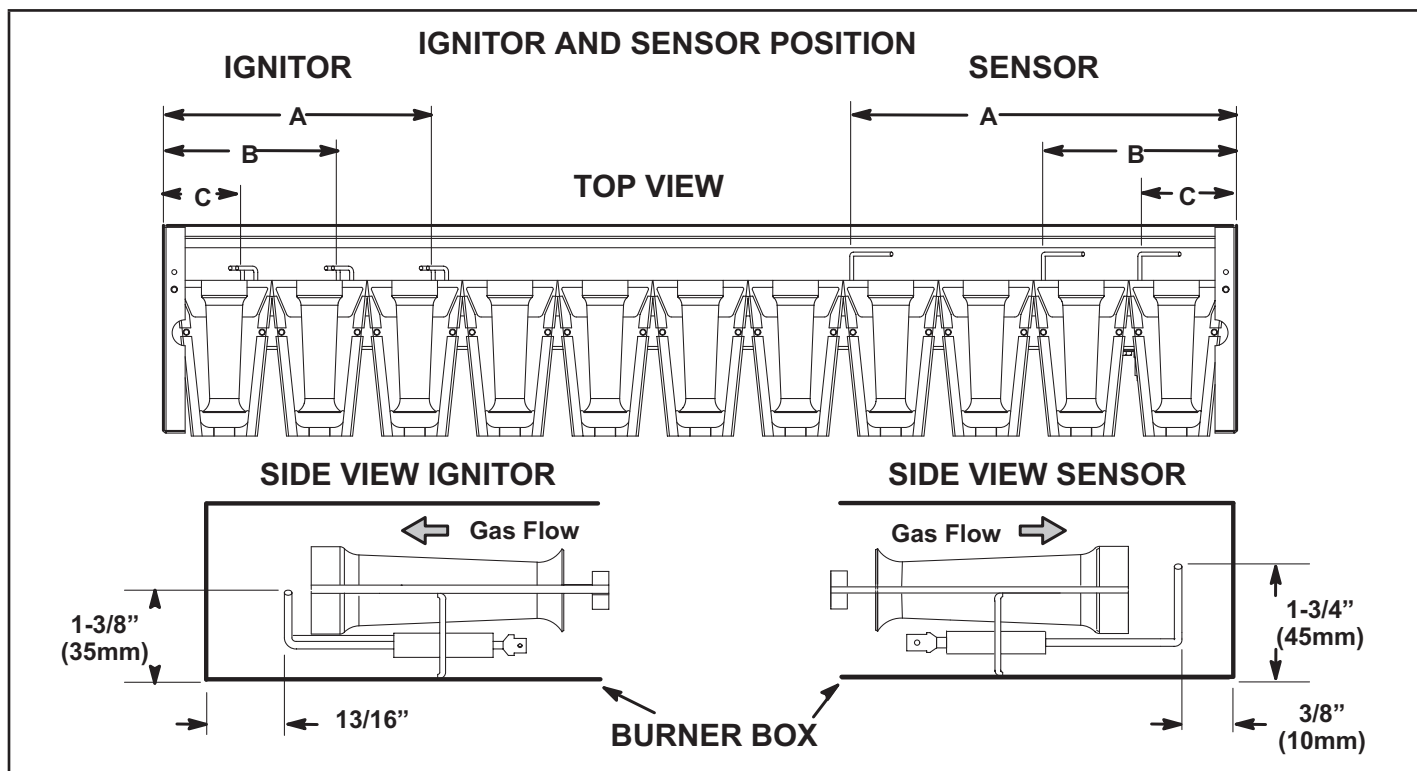

FIGURE 35
- 5 - Check the alignment of the ignitor and the sensor as shown in FIGURE 35 and TABLE 12.